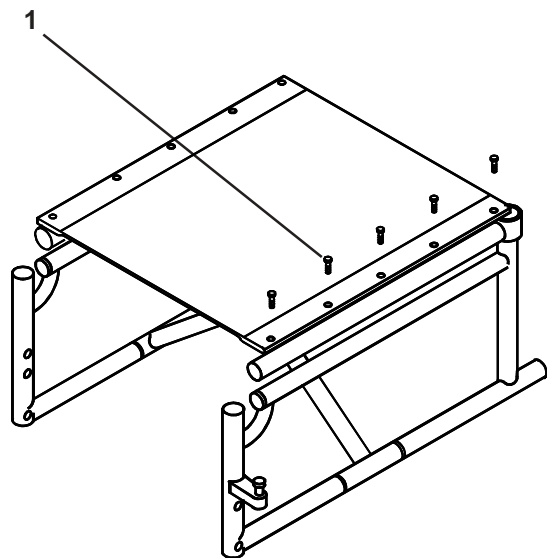

Fig. 47
The seat sling (Fig. 47) can be re-tensioned through the use of Velcro® panels underneath the seat. Remove the No 2 Philips screws (1) retaining the left side of the seat sling with a No 2 Philips screwdriver, re-adjust the Velcro® to bring the sling to its correct tension. Replace the screws and tighten to 5-8Nm torque.